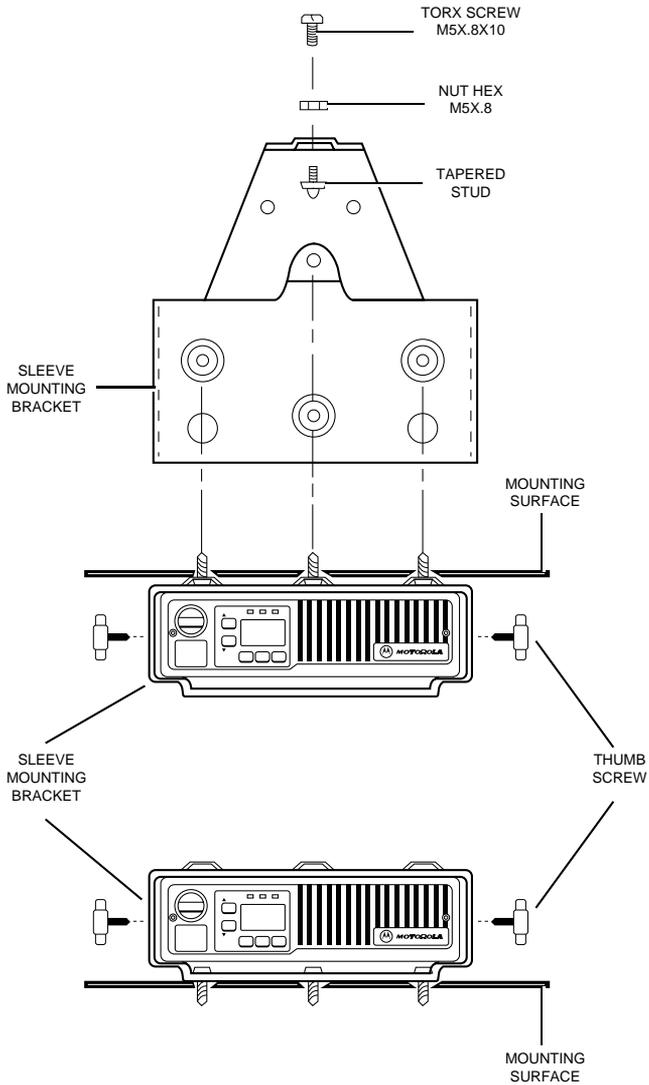

Figure 5. Sleeve Mount for Radio
- (1) Select the location to mount your radio either ON THE DASH or BELOW THE DASH (see Figure 5).
- (2) Using the sleeve-mounting bracket as a template, mark the positions of the holes on the mounting surface.
- (3) Centerpunch the spots you have marked and drill a 5/32" hole at each.
- (4) Secure the sleeve mounting bracket to the surface with the four (10-16 x 3/4") screws provided.
- (5) If there is sufficient room in the rear of the bracket to install the M5 x 0.8 x 10mm screw, proceed with step (7).
- (6) Install the tapered stud and nut in the rear hole of the sleeve-mounting bracket as shown in Figure 5.
- (7) Insert the radio into the sleeve-mounting bracket guiding the tapered pin into the hole in the rear of the heat sink. Secure it with the two thumb screws provided. If you have skipped step 6 above, install the M5 x 0.8 x 10mm TORX® screw in the rear of the bracket to secure the radio.
- (8) To complete your radio installation, plug the power cable into the radio power connector. Mount the antenna using the instructions provided with the antenna kit. Run the coaxial cable to the radio mounting location. If necessary, cut off the excess cable and install the cable connector.
- (9) Connect the antenna cable connector to the radio antenna connector on the rear of the radio.
- (10) Mount the microphone clip. Follow instructions provided with the microphone clip.
- (11) Plug the microphone into the front panel connector. Your microphone has a telephone-type connector at the end of its cord. Connect and disconnect your radio microphone in the same manner you connect and disconnect a telephone handset.